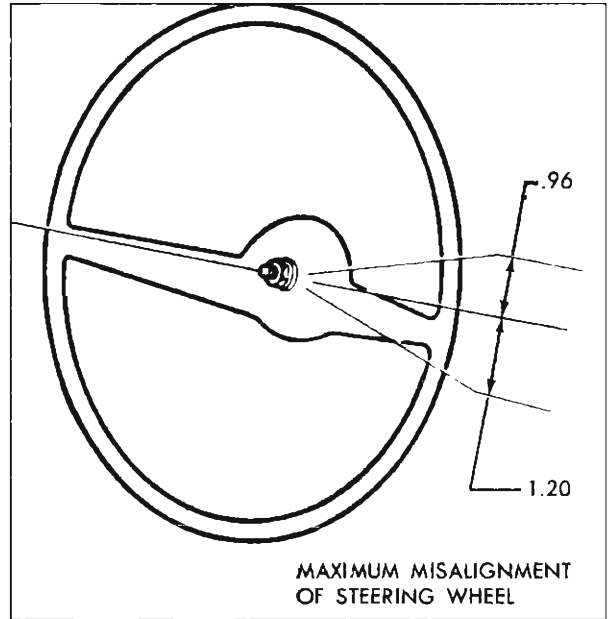
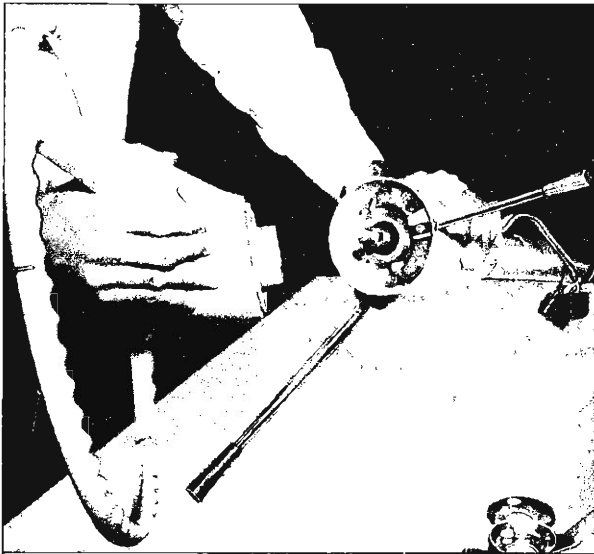

Fig. 15—Wheel Alignment
Fig. 14—Installing Steering Wheel
2. Also align the steering wheel with the mark on the steering shaft and attach the steering wheel (fig. 14) under maximum misalignment in Figure 15.